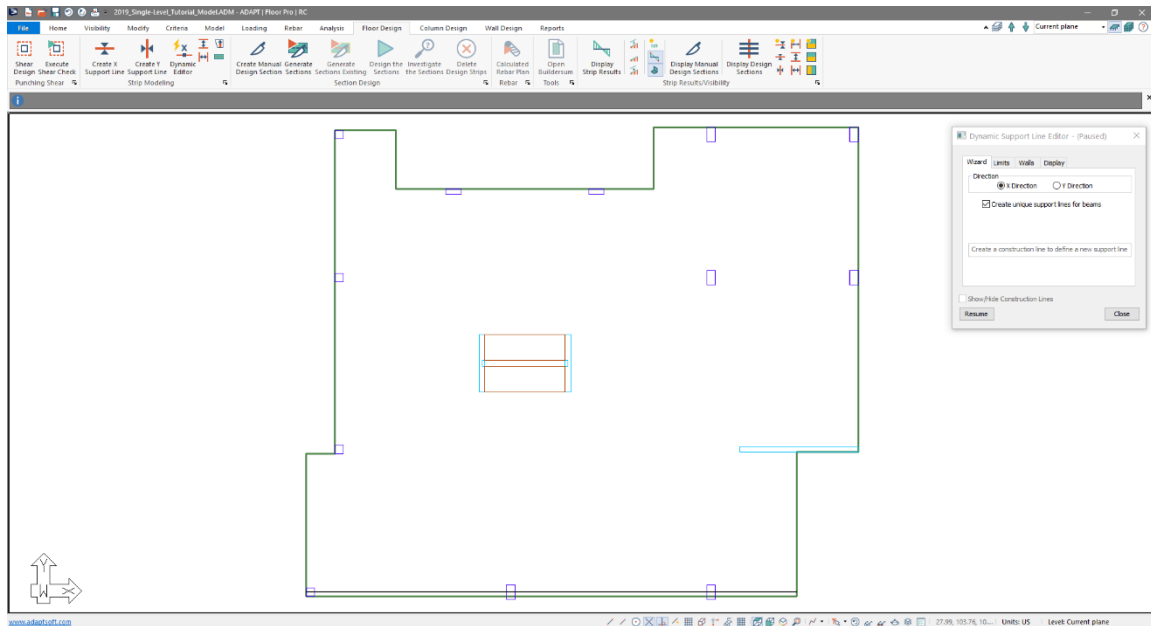

Figure 6-6
- The user should now have one X-direction support line entered in the model as shown in **FIGURE 6-6**.